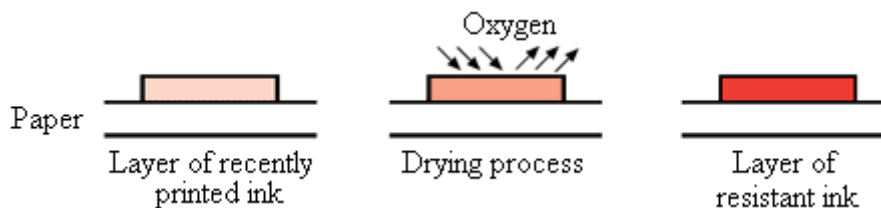

Fig. 12: Process of drying inks by oxidation.
- **Oxidation.** When the layer of ink is placed on the medium, oxygen oxidises the plant oils and resins, thereby setting the ink layer making it resistant and flexible. There are no mineral oils in these inks (fig. 12).